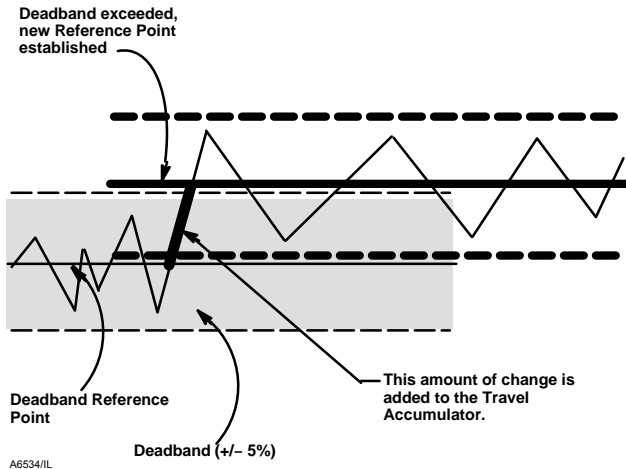

Figure 4-4. Travel Accumulator Deadband (set at 10%)
- **Tvl Accum DB**—Travel Accumulator Deadband is the area around the travel reference point, in percent (%) of ranged travel, that was established at the last increment of the accumulator. This area must be exceeded before a change in travel can be accumulated. See figure 4-4.
- **Tvl Accum**—Travel Accumulator records the total change in travel, in percent (%) of ranged travel, since the accumulator was last cleared. The value of the Travel Accumulator increments when the magnitude of the change exceeds the Travel Accumulator Deadband. See figure 4-4. You can reset the Travel Accumulator by configuring it to zero.